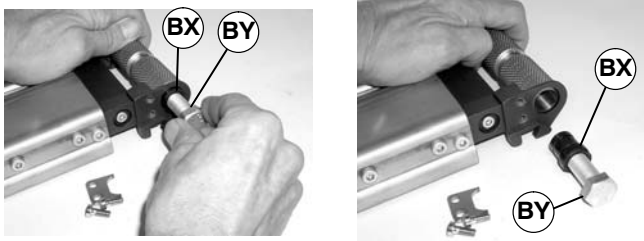

Figure 39
3. Install bolt (part # 906-278☆) (BY of Figure 39) into retaining sleeve (BX). Pull out on bolt to remove retaining sleeve.